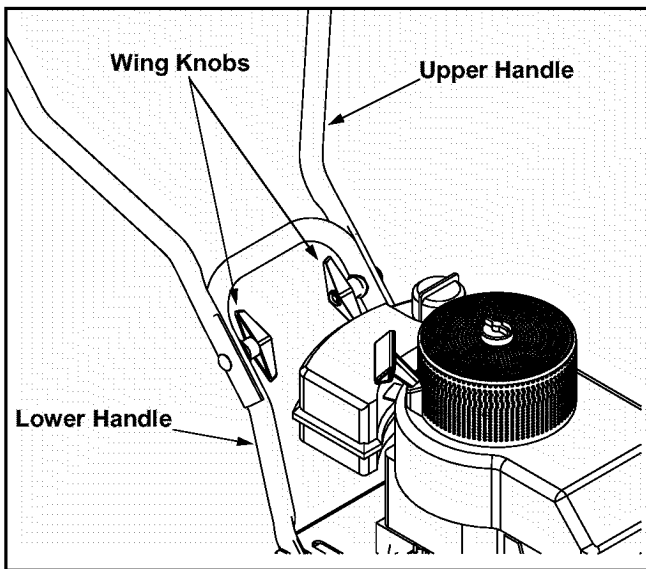

Figure 2
- Tighten the wing knobs which are located on both the left and right sides of the handle. See Figure 2 .